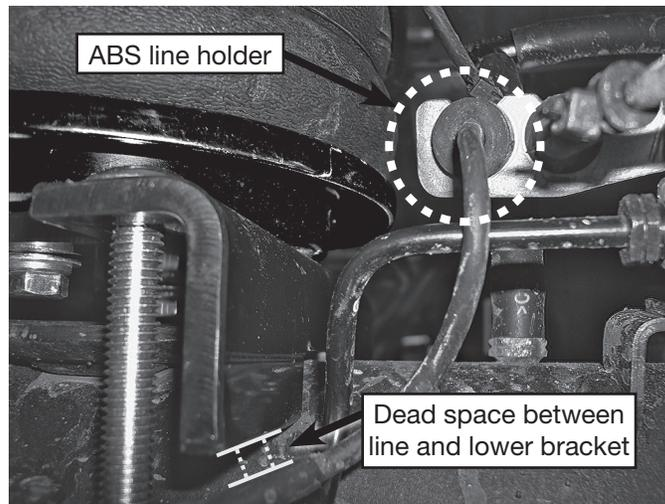

fig. 19
2. To do this just pull the line out of the holder on the axle and rotate it 180 degrees, then push it back into the holder (Fig. 19). This will change the position of the line so that it will not come in contact with the lower bracket.